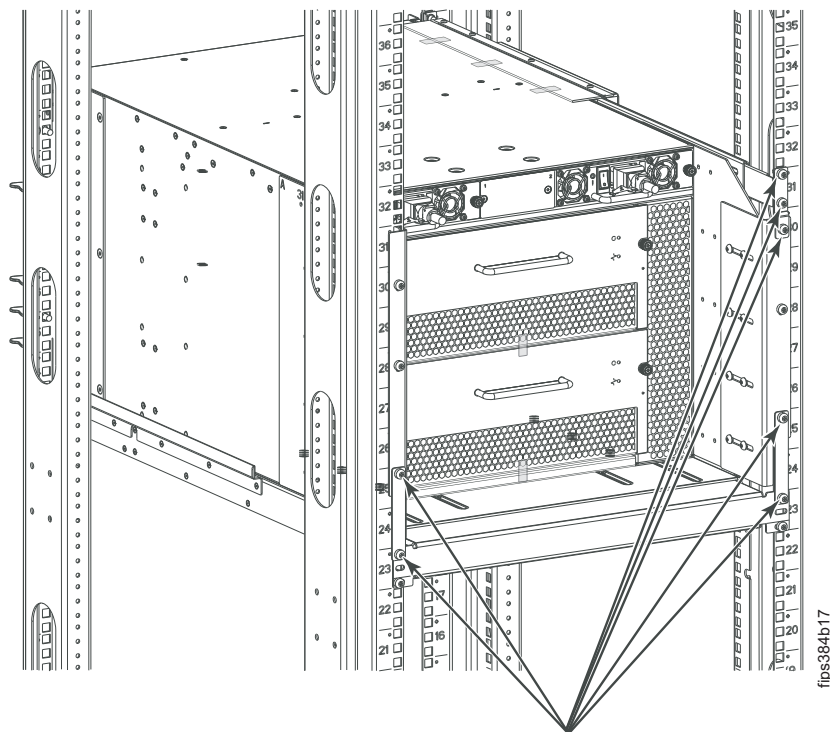

Figure 23. 2499-192 rackmount screw removal (non-port side view)
1. Remove the seven rackmount screws that are needed to secure the upper and lower FIPS brackets to the chassis, as shown by the arrows in Figure 23.